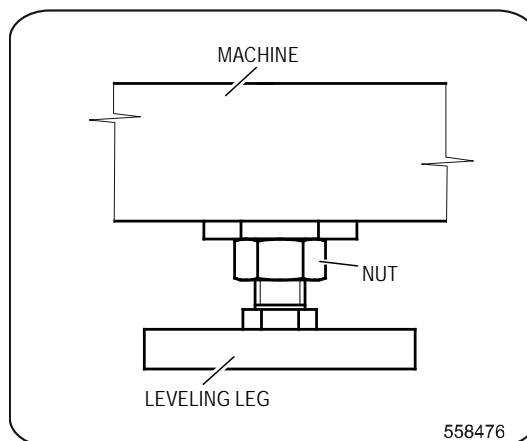

Figure 4
- **NOTE:** After leveling is complete, tighten the nut securely against the machine's base. Refer to Figure 4.